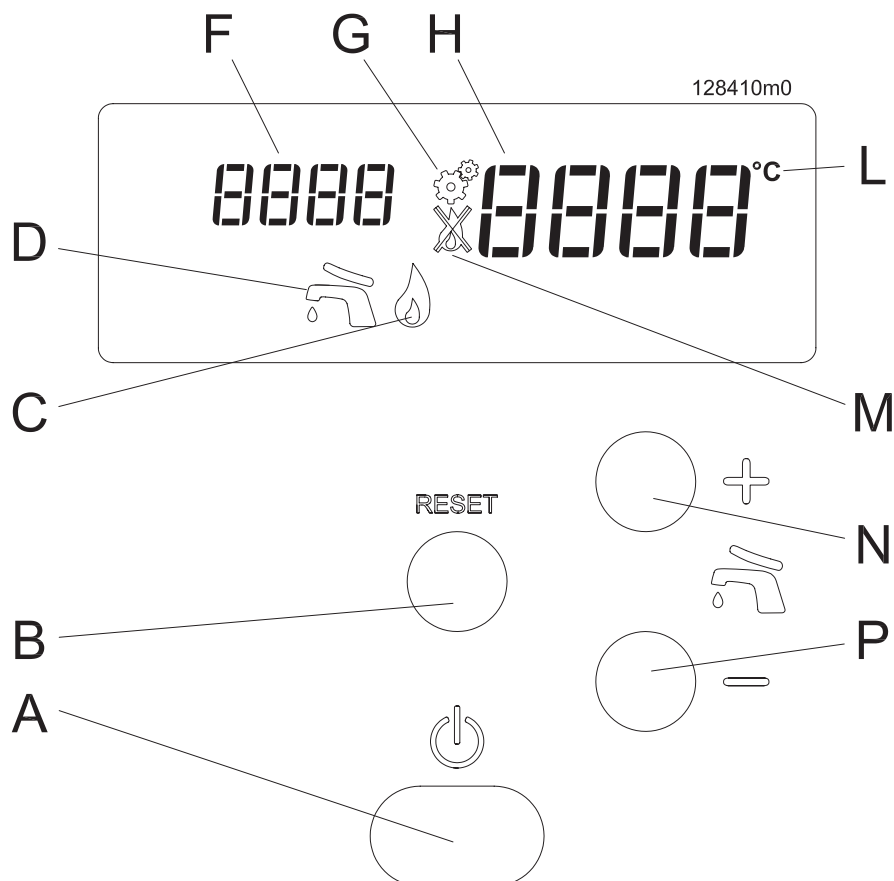

Figure 7-1 - Control panel
1. turn the power switch (item "A" in Figure 7-1) to on;
Key for figure 7-1
Entry into the "User menu" is highlighted by the visual display "F", in figure 7-1, which indicates parameters that can assume
operating on the  and  keys. On pressing one of the two keys, the visual display "H" in figure 7-1 will start to flash and show the temperature that is being set. The range of adjustment for the temperature of the domestic hot water goes from 40°C to 60°C. For higher output temperatures, contact your technician to change the maximum output temperature factory setting, see section 11.
- a.- press the RESET key to access the parameter (the visual display “H” in figure 7-1 will start to flash);